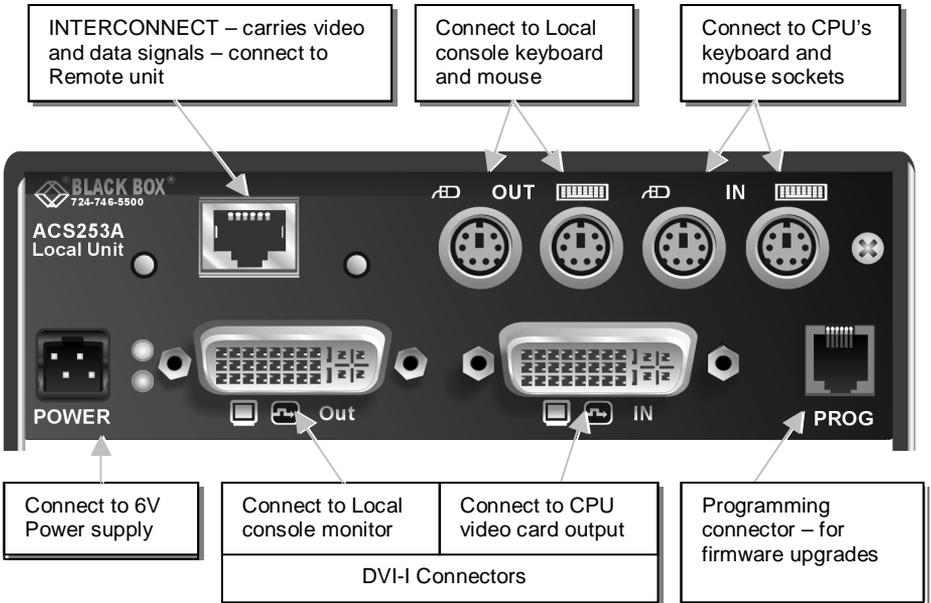
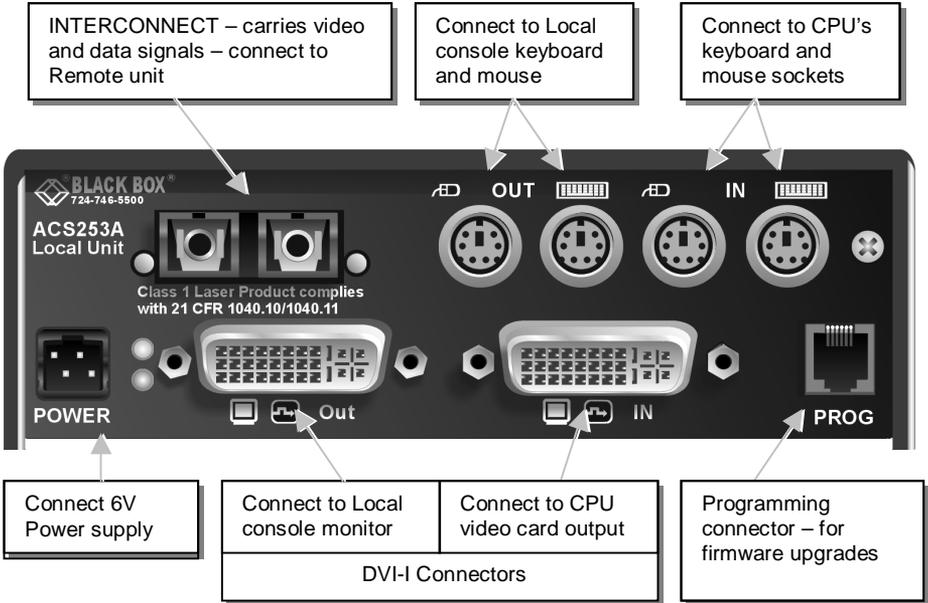
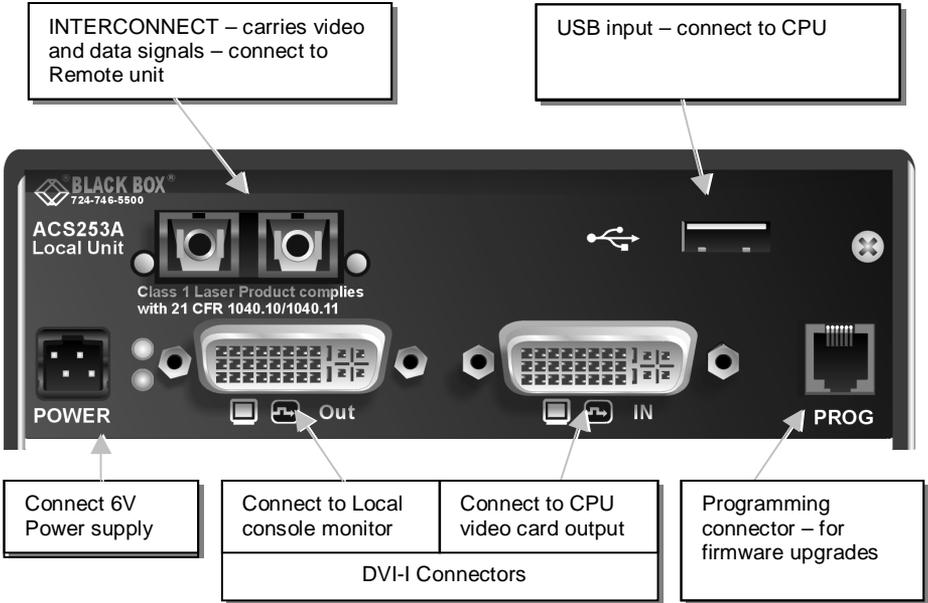

Figure 3 ACS253A-CT Local Unit
Figure 5 ACS253A-xM Local Unit
Figure 7 ACS253A-U-xM Local Unit
5. Using the supplied CPU KVM cable(s), connect the keyboard, monitor(s) and mouse connectors on the computer (or KVM switch) to the corresponding connectors on the Local unit as shown in Figure 3 (ACS253A-CT), Figure 5 (ACS253A-SM/MM) or Figure 7 (ACS253A-U-SM/MM).
7. Connect the Interconnection cable from the Remote unit to the INTERCONNECT socket on the Local unit as shown in Figure 3 (ACS253A-CT), Figure 5 (ACS253A-SM/MM) or Figure 7 (ACS253A-U-SM/MM).